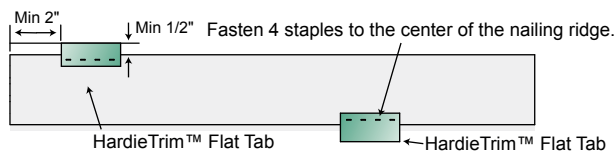

Figure 19
Step 1: Attach Flat Tabs to the back side of the trim with 4 18 ga. 1/2" L x 1/4" W narrow crown corrosion resistant staples, equally spaced in one row, positioned no closer than 1/2" from trim edges, using a pneumatic staple gun. (Figure 19)